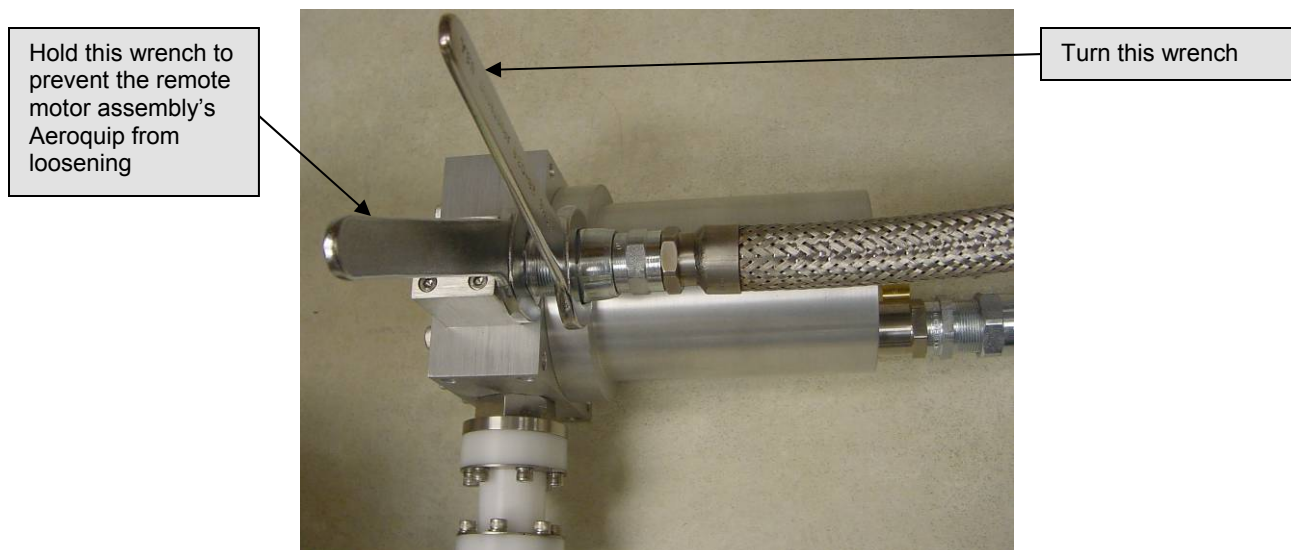

Figure 7-2: Disconnecting flex lines from a remote motor assembly
- 10) Disconnect the Aeroquip® on the high and low pressure fittings on the remote motor assembly by turning the flexible line's Aeroquip® counter-clockwise with one wrench while holding the remote motor assembly's Aeroquip® with the other wrench. See Figure 7-2.